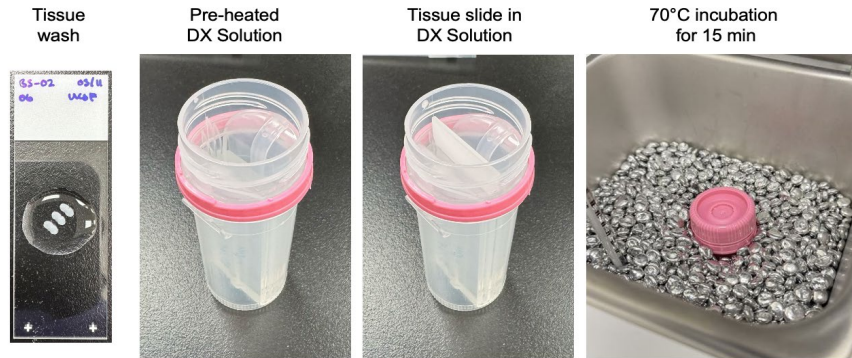

Figure 14. Decrosslinking solution on tissue and placement of the slides into the Screw-top slide mailer.
- Transfer 13 ml of the Decrosslinking Solution into the provided Screw-top Slide Mailer and place in the heat block or bead bath set at 70°C (Figure 14).
1. Gently pipette 500 µl of room temperature Decrosslinking Solution on the side(s) until tissue is completely covered (Figure 14). Minimize pipetting directly onto the tissue to prevent potential tissue detachment from the slide.
4. Place the slide(s) in the screw-top slide mailer with the pre-heated Decrosslinking Solution (Figure 14), and seal.